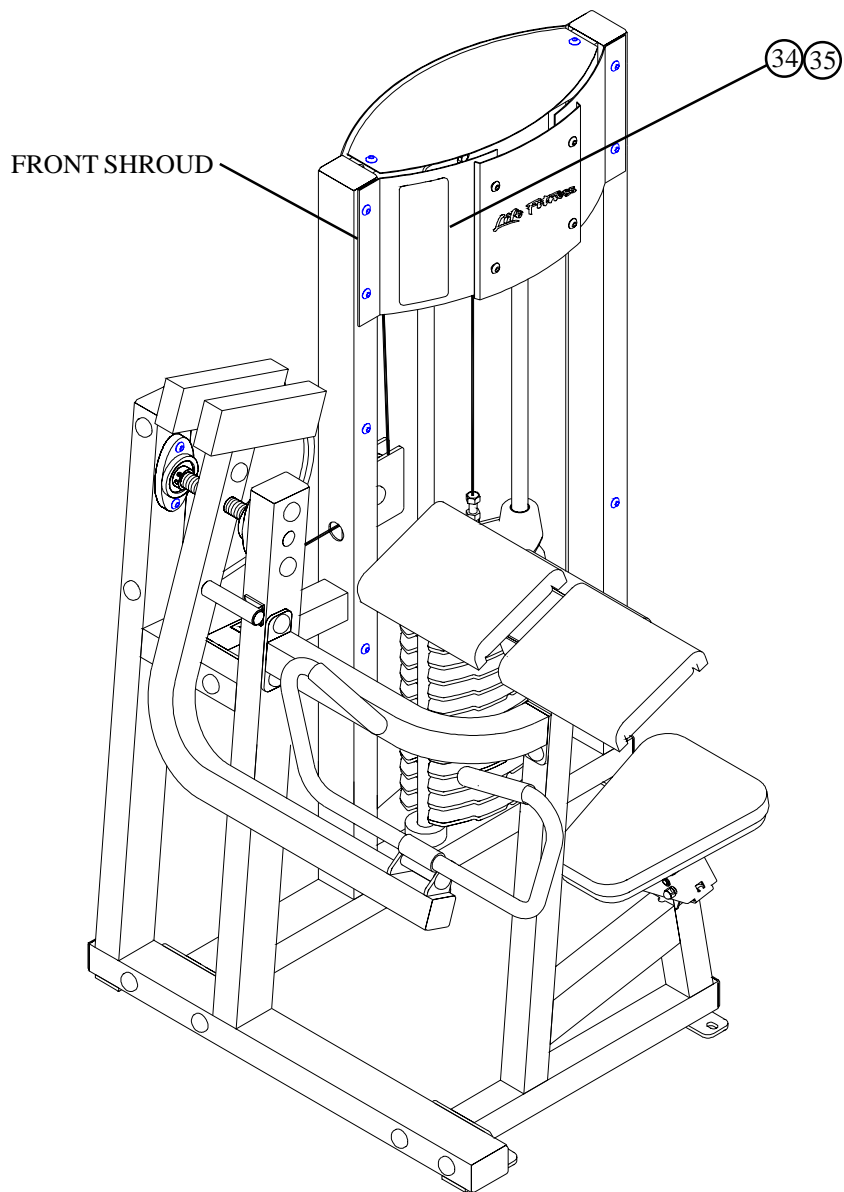

FIGURE 16
- Assemble the PLACARD LABEL (34) or the FOREIGN LANGUAGE PLACARD LABEL (35) to the FRONT SHROUD as shown in FIGURE 16.